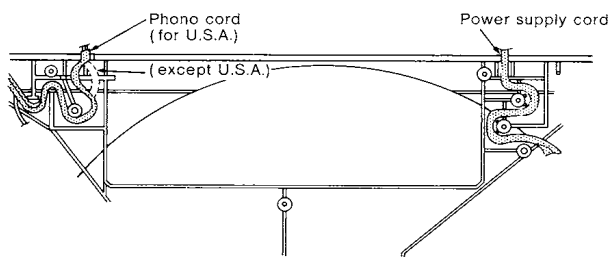

Fig. 1
- (1) Remove the platter, the belt from motor pulley and run it round the inside circumference of the platter.
- (2) Now, an operation check is possible in ordinary conditions with the set the right way up again.
- (3) Perform item (1) in reverse when assembling.
- (4) Be sure to lay out the power supply cord and phono cord according to Fig. 1 for safety standards.
- (5) Check cueing, auto-return and auto-cut operations after assembling.